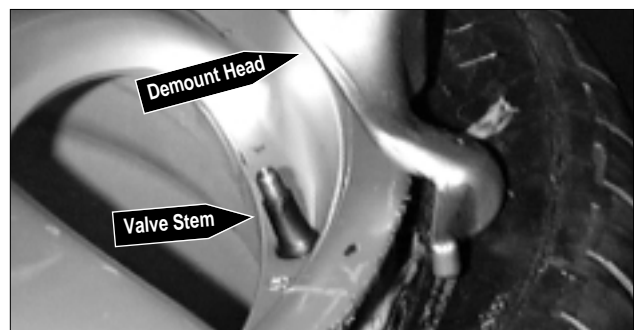

Figure 27 - Position Valve Stem Under Demount Head
7. Move swing arm into place and adjust as described on page 4, steps 7, 8, and 9. Increase the distance between the demount head and the wheel an additional 1/16 to 1/8 inch with the adjustment knob. Locate the valve stem directly under the demount head before proceeding (Figure 27).